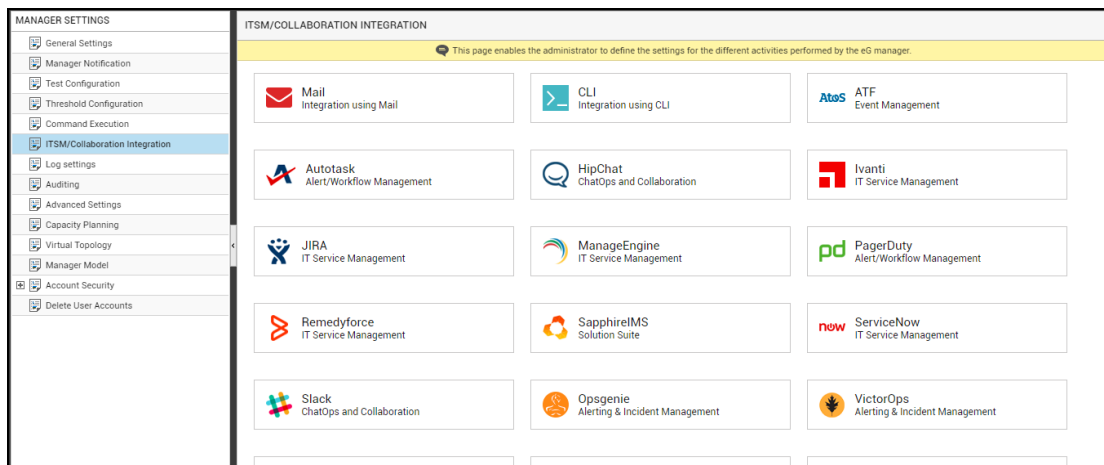

Figure 4.1: Viewing the ITSM/Collaboration tool options
3. Figure 4.1 will then appear. From the **MANAGER SETTINGS** tree in the left panel of Figure 4.1, select the **ITSM/Collaboration Integration** node. The third-party ITSM/Collaboration tools that eG Enterprise can integrate with will be listed in the right panel.
4. Now, click on the **CLI** option in the right panel (see Figure 4.1). A **CLI** section will now appear in the right panel (see Figure 4.2).